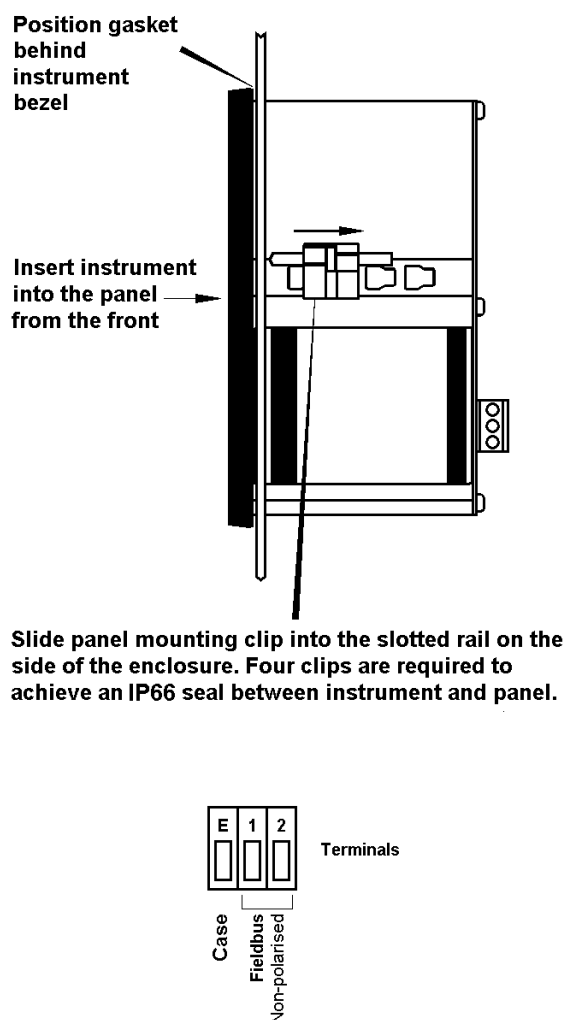

Fig 3 Installation and terminal connections
- Connect the panel wiring to the rear terminal block as shown in Fig 3. To simplify installation, the terminals are removable so that panel wiring can be completed before the instrument is installed.